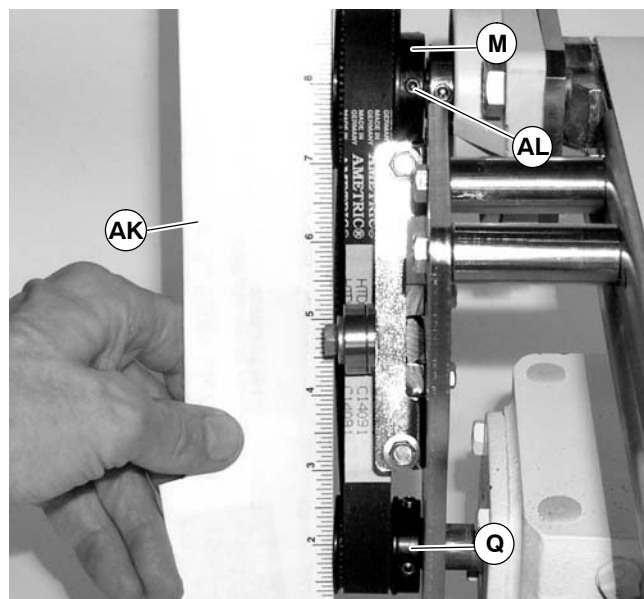

Figure 10
4. Using a straight edge (AK of Figure 10), align driven pulley (M) with drive pulley (Q). Tighten two driven pulley set screws (AL).